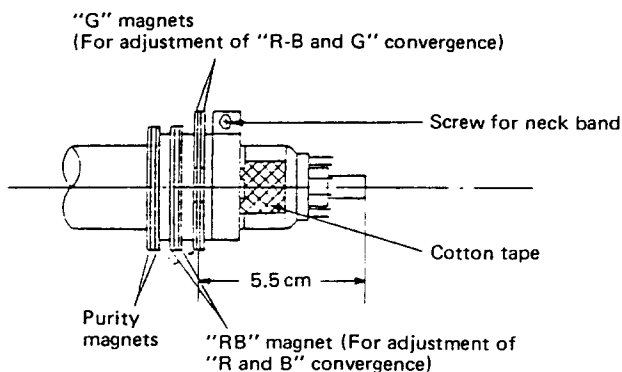
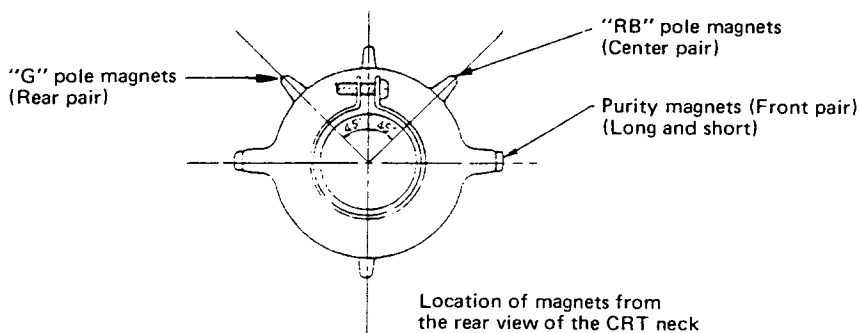

Fig. 21
Fig. 22
- (1) Degauss picture tube.
- (2) Receive a white raster pattern.
- (3) Position the Magnet Assembly, and tabs of magnets as shown below. (Fig. 21, Fig. 22)
- (4) Disconnect the "G" connector on the MAIN PWB, and adjust the Brightness Control for a bright picture.
- (5) Loosen the Deflection Yoke Clamp and slide the Deflection Yoke backward against the Magnet Assembly.
- (6) Adjust the Purity Magnet (front pair) by moving their tabs the same distance in opposite directions. Adjust them so that the magnet color mass is at the center of the screen.
- (7) Move the Deflection Yoke forward and position it where the best purity is obtained. Tighten the yoke clamp. Place a "Temporary" wedge between the upper side of the Deflection Yoke and the CRT, if necessary, to keep the yoke straight. Position the wedge so that no purity shift occurs.
- (8) Reconnect the "G" connector. If necessary, adjust the Red (VR751), Blue (VR753) and Green Bias (VR752) control on the main PWB for proper color temperature.
- (9) Set the Service Switch (SW401) to the "Service" position, and rotate the yoke, if necessary, to "level" the horizontal line.